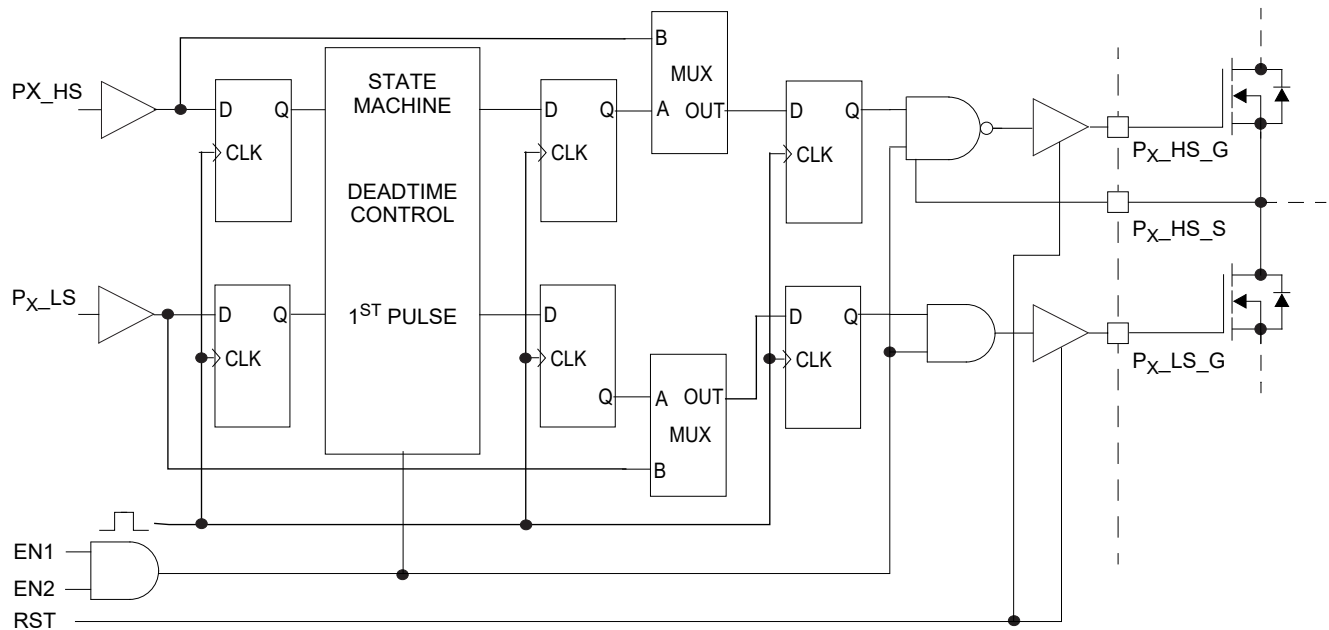

Figure 6. Deadtime control delays
42. These delays include all logic delays except deadtime. All internal logic is synchronous with the internal clock. The total delay includes one clock period for state machine decision block, an additional clock period for fullon mux logic, input synchronization time and output driver propagation delay. Subtract one clock period for operation in fullon mode which bypasses the state machine decision block. Synchronization time accounts for up to one clock period of variation. See Figure 6.